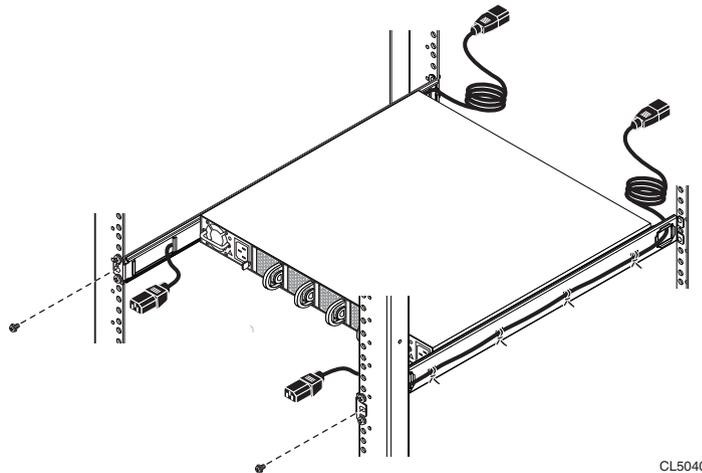

Figure 84 Installing the middle stabilizer screws
2. Secure the rails in the rack by threading a small stabilizer screw through the front rack channel and into the middle hole of each rail (Figure 84).